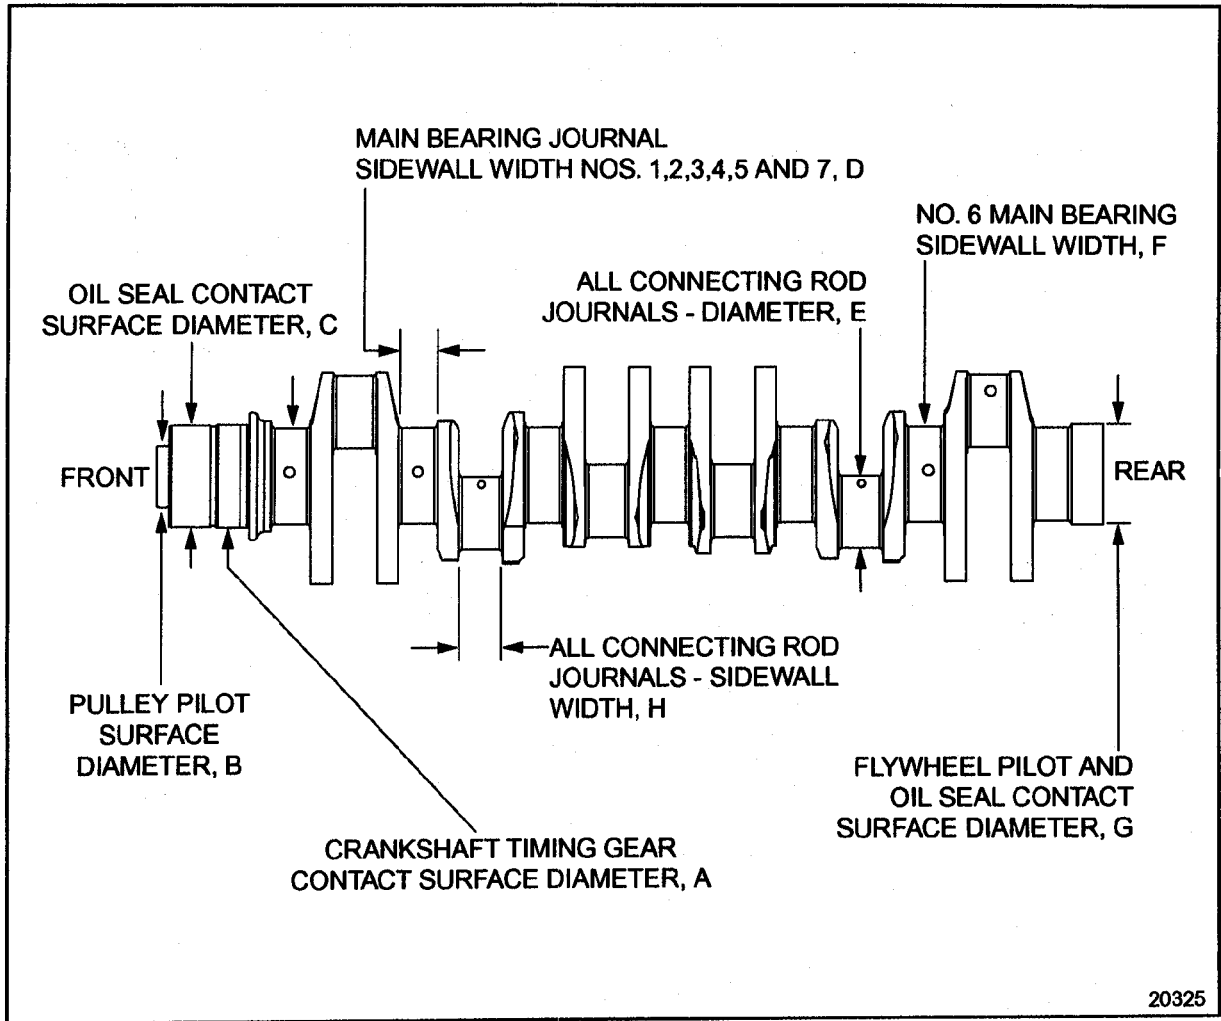

Figure 1-463 Standard Crankshaft Dimensions
9. In the event of bearing seizure, bearing overlay must be removed. Check the width of journals to determine whether the sidewalls can be reground. See Figure 1-463 for location of crankshaft dimensions. Crankshaft specifications are listed in Table 1-13.
11. If the crankshaft has been ground undersize prior to present receiving inspection, check fillets, thrust, and all widths to determine whether or not enough stock remains to warrant regrinding. See Figure 1-463 for location of crankshaft dimensions. Listed in Table 1-14 are crankshaft remanufacturing tolerances.
- Grind sidewalls wide enough to clean up the basic face surface, not to exceed pin width allowable. See Figure 1-463.